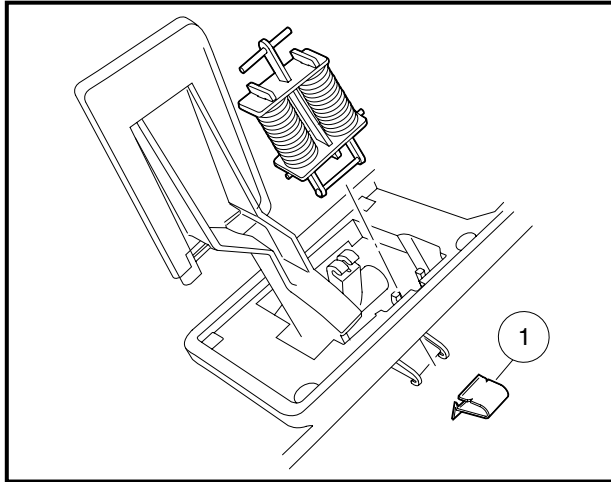

Figure 5-5 Accelerator Spring Clip
2. To install accelerator return spring assembly, position the accelerator return spring unit in the pedal group with the lower crosspin of the assembly positioned in the pedal group, secure it in place with the clip (1) (**Figure 5-5, Page 5-6**).